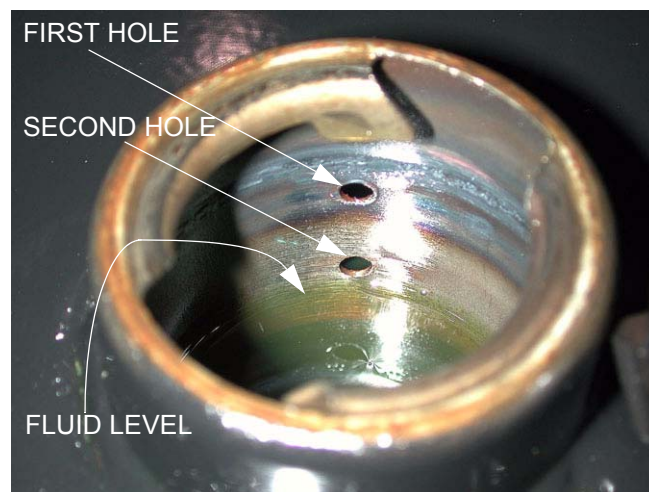

Figure 3.3
- 3.3. The hydraulic fluid level should be at the second hole in the filler neck of the reservoir. See Figure 3.3.